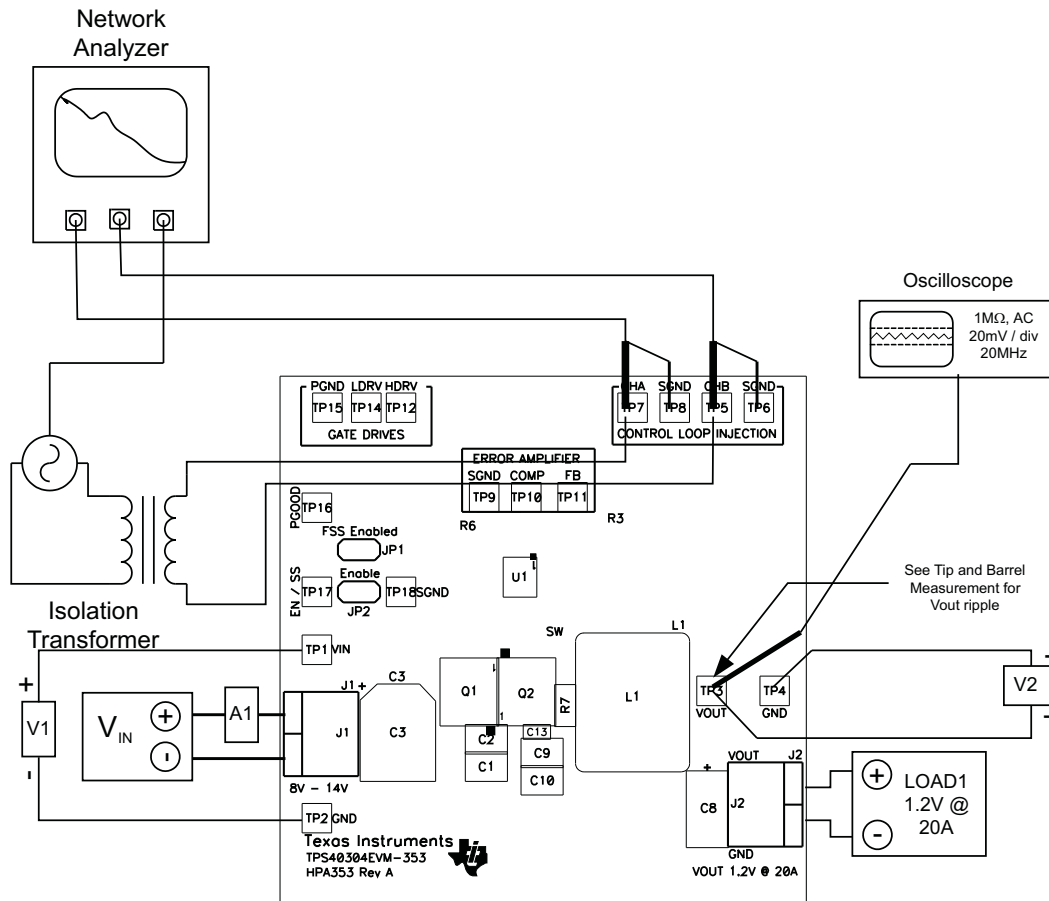

Figure 4. Control Loop Measurement Setup
The TPS40304EVM-353 provides four test points (2 signal and 2 ground) for measuring the control loop frequency response. This allows the user to measure the actual module loop response without modifying the evaluation board. A transformer isolated signal up to 30mV can be injected between TP5 and TP7. The injected signal amplitude can be measured by the ac coupled amplitude at CHA (TP7) and the resulting output voltage deviation can be measured at CHB (TP5). See Figure 4 for additional detail.
2. Connect a 1-kHz – 1-MHz isolation transformer to TP5 and TP7 as shown in Figure 4
3. Connect input signal amplitude measurement probe (channel A) to TP7 as shown in Figure 4
4. Connect output signal amplitude measurement probe (channel B) to TP5 as shown in Figure 4
5. Connect ground lead of channel A and channel B to TP6 and TP8 as shown in Figure 4